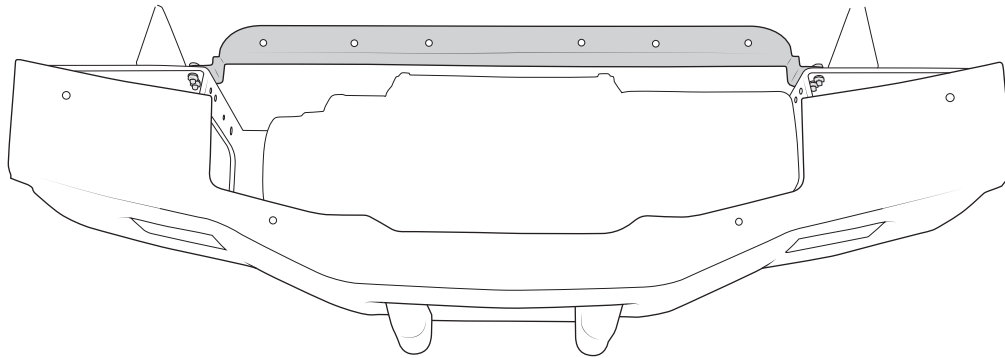

Figure 27
9. **DIESEL trucks continue to section F**, for 2014+ GAS trucks, install the air dam bracket to the bumper using the supplied hardware (fig. 27). Torque to **9 lb-ft**.